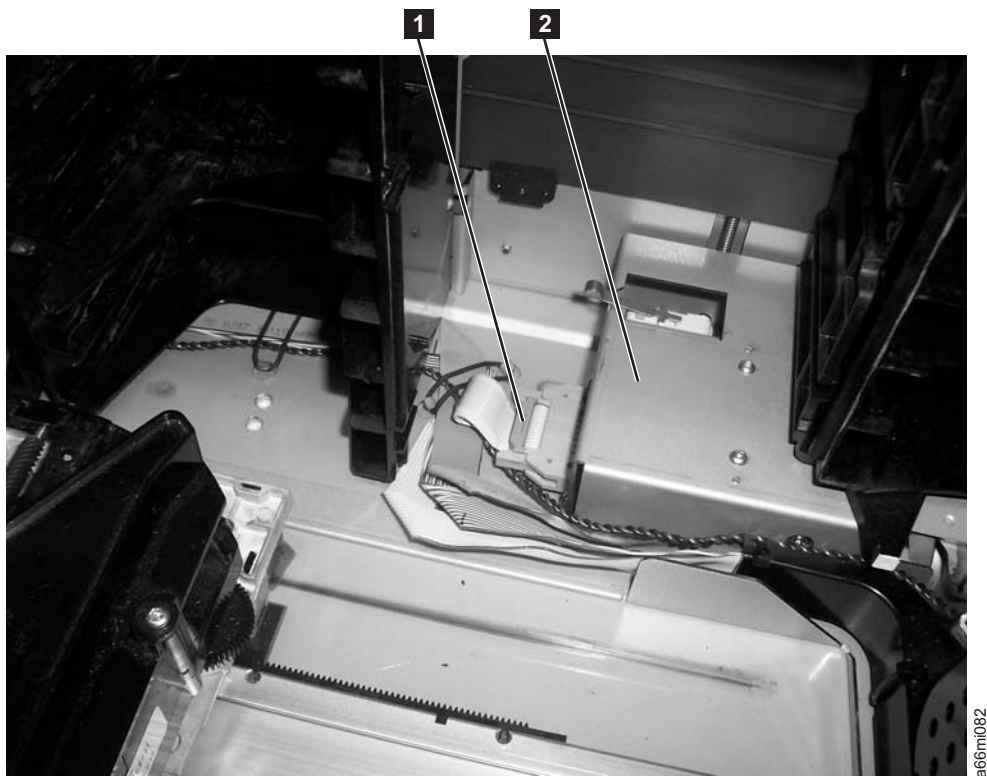

Figure 7-11. I/O Station lock assembly connector (top cover removed)
2. Visually check, and reseal if necessary, the connector on the back of the I/O Station lock assembly. See **1** in Figure 7-11 on page 7-30.